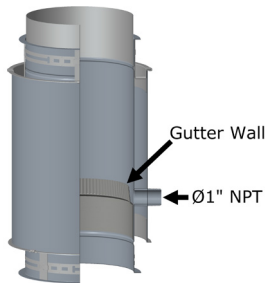

Figure 72 - Drain Length (DL)
**DRAIN LENGTH (DL)**
A Drain Length (DL) is used to drain water on vertical runs. It is an 18" pipe length with provision to drain rain or condensate from the chimney. The pipe flue is equipped with an annular catch gutter wall and a 1" (25) NPT nipple extending through the casing for attachment of drain piping. See Figure 72. The drain piping should include a water leg of a height at least equal to the maximum expected operating pressure at the appliance outlet to avoid allowing flue gases to vent through the drain. Drain Length should be installed indoors to prevent freezing.